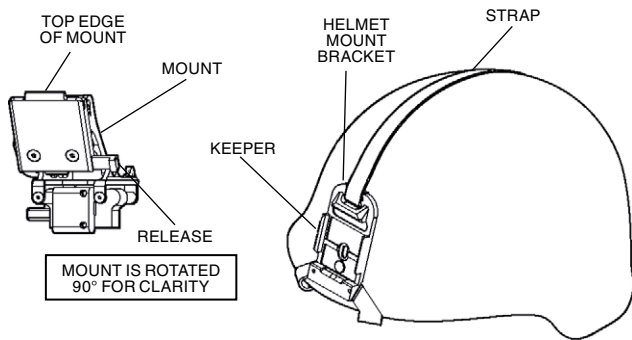
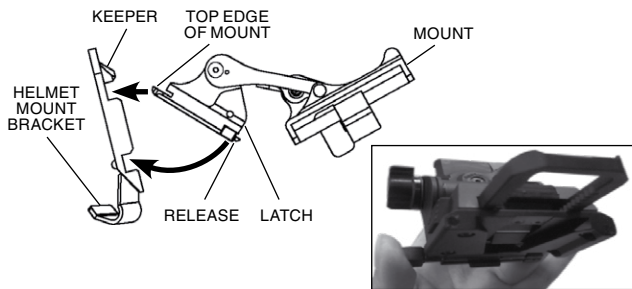

FIGURE 2.11. HELMET MOUNT
FIGURE 2.12. REASSEMBLY OF HELMET MOUNT
- (2) Press the release (Figure 2.11.) to remove the mount from the helmet mount bracket.
- (3) Make sure the strap is laced onto the helmet mount bracket as shown in Figure 2.11.
- (4) With catch (see Figure 2.11.) in forward most position, place the strap over the top of the helmet center (see Figure 2.12).
(5) Hook the rear bracket (see Figure 2.11.) on the center of the back of the helmet and lay the strap with helmet mount bracket over the top of the helmet.
(6) Hook the helmet mount bracket in the center of the front lip of the helmet and hold it in place (see Figure 2.12.).
(7) With the buckle lever open, take up the slack in the strap using the catch. Close the buckle lever.
- (8) Disengage the nape strap latch on the left side of nape strap.
- (9) Don the helmet. Do not fasten the helmet chinstrap.
- (10) Engage the nape strap at the nape strap latch. Tension the nape strap for a stable fit, then install and tension the helmet chinstrap. The brow of the helmet should be parallel to the ground and the helmet stable on the head.
- (11) Insert the top edge of the mount under the keeper on the helmet mount bracket and rotate downward until the latch engages (see Figure 2.12.). To release the mount from the helmet bracket, press the release and pull forward and down.